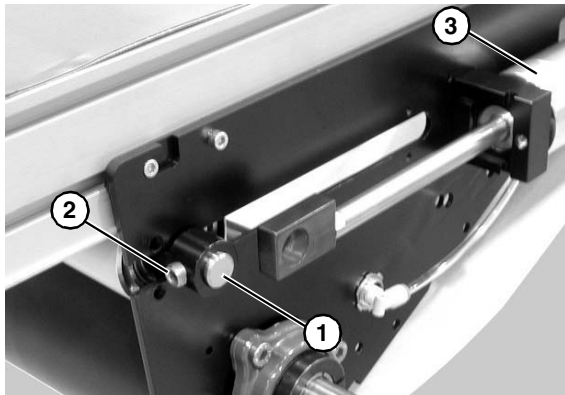

Figure 65
5. Push shaft (**Figure 65, item 1**) through block (**Figure 65, item 2**), and slide block towards air cylinder (**Figure 65, item 3**).